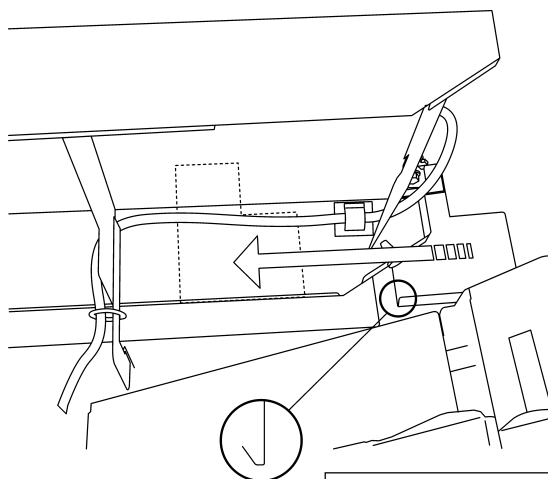
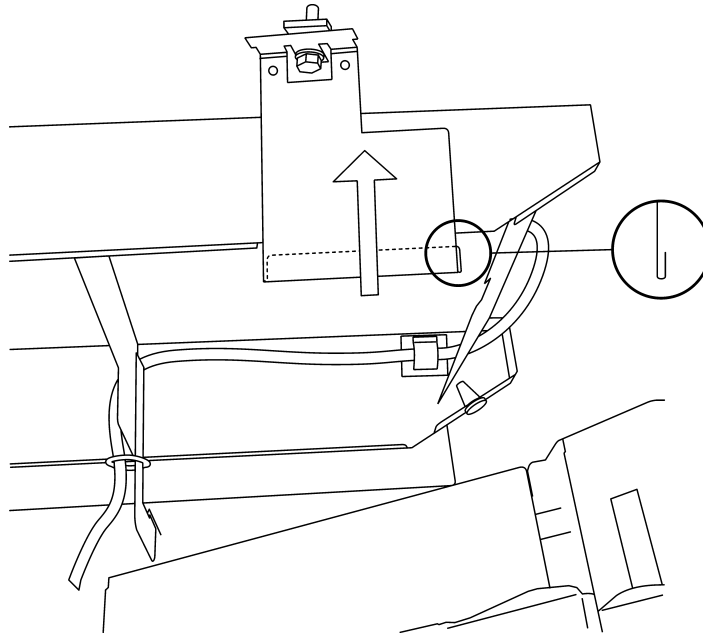

Figure 2, Top view
Figure 3
7. Install two new springs from the Cover feeder box, item 9 on the front side.
9. Install two new springs from the Cover feeder box, item 9 on the rear side.
10. Remove the folder bracket by removing four 7mm screws according to figure 2.
11. Take the Cleaning plate, item 9 from the Cover feeder box.
12. Put the Cleaning plate behind and under the SR85 frame, and between the two Fold rollers according to figure 3.
13. Attach the two springs on the white bracket according to figure 3.
1. Cut the three red cable ties and remove the cardboard between the Upper paper path and the frame. Figure 1 and Figure 2.
9. Loosen the screw, and fasten the ground cable, according to figure 2.
10. Route the PSH down by the existing Harness, according to figure 2.
11. Secure the PSH with two cable ties, according to figure 2.
14. Connect the red cable to the Power connector, according to figure 2.
15. Connect the black cable to the Ground connector, according to figure 2.
16. Secure the cable to the existing harness with a cable tie, according to figure 2.
17. Route the Orange and Purple cable into the Cutout in the rear frame of the machine, according to figure 2.
18. Route the Orange and Purple cable along with the existing Harness, according to figure 3.
19. Secure the Orange and Purple cable with two cable ties, according to figure 3.
20. Loosen screw no. 9 on the terminal block and leave the White wire, according to figure 3.
21. Insert the Orange wire from the PSH and the existing White wire to no. 9 on the terminal block. Fasten the screw, according to figure 3.
22. Loosen screw no. 10 on the terminal block and leave the Blue wire, according to figure 3.
23. Insert the Purple wire from the PSH and the existing Blue wire to no. 10 on the terminal block. Fasten the screw, according to figure 3.
5. Make sure that the Top cover is open. Take the Rear Installation Bracket, item 6 page 1.1, and slide it between the Top cover and the Rear frame of the Booklet maker. Slide it from right to the left, according to figure 2.
6. Take the Front Installation Bracket, item 5 page 1.1. Install it on the front side of the Top cover. Slide the Bracket upwards so the fold catches the edge of the Top cover, according to figure 3.